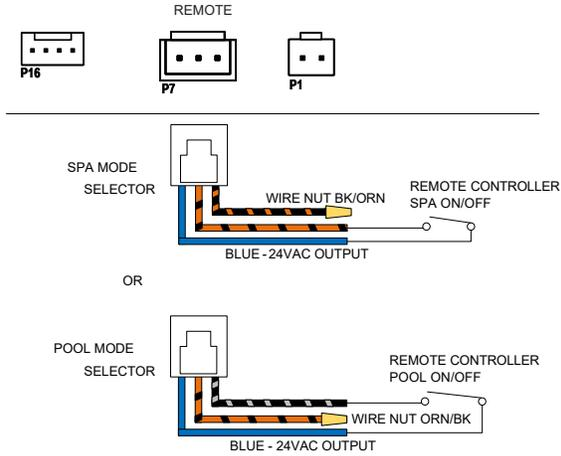

Figure 56. 2-Wire Remote Harness Installation
7. Install the "3-wire Remote Harness" to the "P7" connector and turn power "ON" to the heater. See Figure 56.
5. On the 3-wire remote harness, connect the BLUE wire to one side of the remote automation controller and connect the other side to either the ORANGE/BLACK wire for "SPA" operation or the BLACK/ORANGE wire for "POOL" operation. See Figure 56.